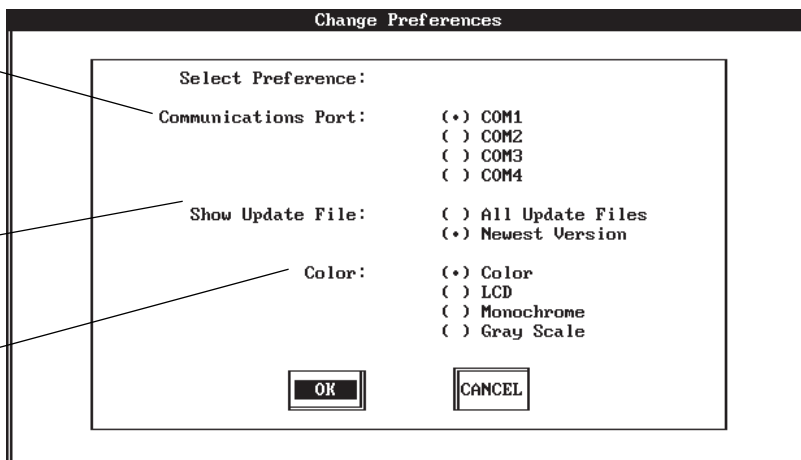

Figure 5-12 Preferences Window
2. Select Preferences from the Options menu. The notes in Figure 5-12 explain the selections in the window. When you have selected your preferences, select OK.